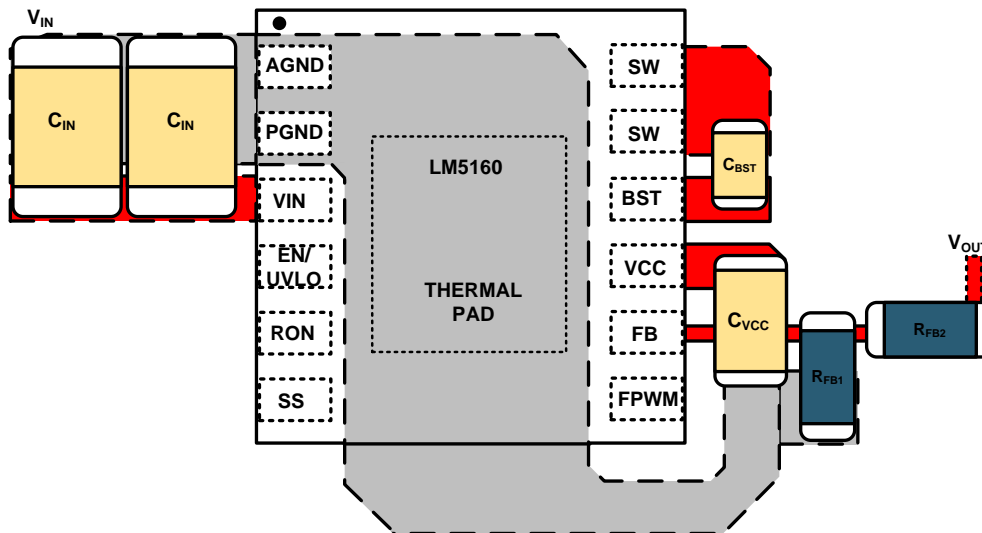

Figure 36. Placement of Bypass Capacitors
- C_{IN} : The loop consisting of input capacitor (C_{IN}), VIN pin, and PGND pin carries the switching current. Therefore, in both the LM5160 and the LM5160A, the input capacitor must be placed close to the IC, directly across VIN and PGND pins, and the connections to these two pins must be direct to minimize the loop area. In general it is not possible to place all of input capacitances near the IC. A good layout practice includes placing the bulk capacitor as close as possible to the VIN pin (see Figure 36).
- C_{VCC} and C_{BST} : The VCC and bootstrap (BST) bypass capacitors supply switching currents to the high and low-side gate drivers. These two capacitors must also be placed as close to the IC as possible, and the connecting trace length and loop area must be minimized (see Figure 36).